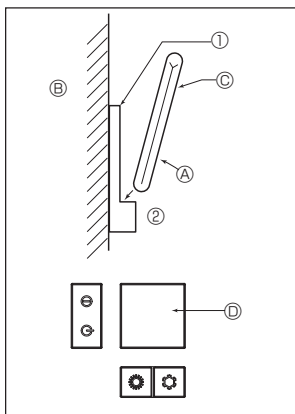
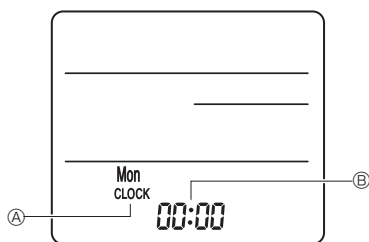

Fig. 7-7
Fig. 7-8
2) Installation method (Fig. 7-7)
- ① Attach the remote controller holder to the desired location using 2 tapping screws.
- ② Place the lower end of the controller into the holder.
③ Remote controller ④ Wall ⑤ Display panel ⑥ Receiver
3) Setting (Clock setting) (Fig. 7-8)